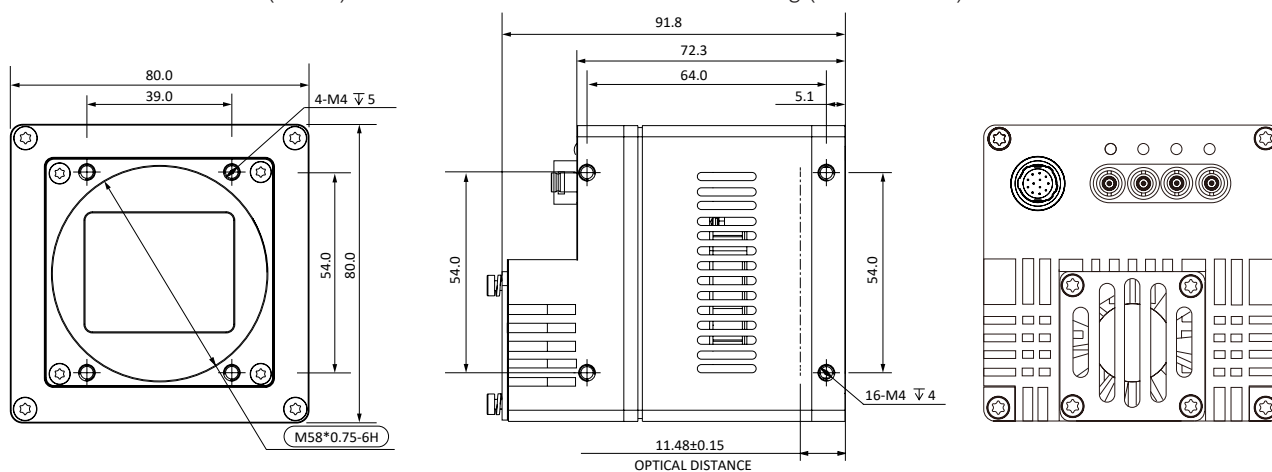

Fig. 1-6: Mechanical Dimensions (in mm) for Cameras with 80 * 80 * 72mm housing (M58 interface).
- Fig. 1-6: Mechanical Dimensions (in mm) for Cameras with $80 \times 80 \times 72$ mm housing (M58 interface).